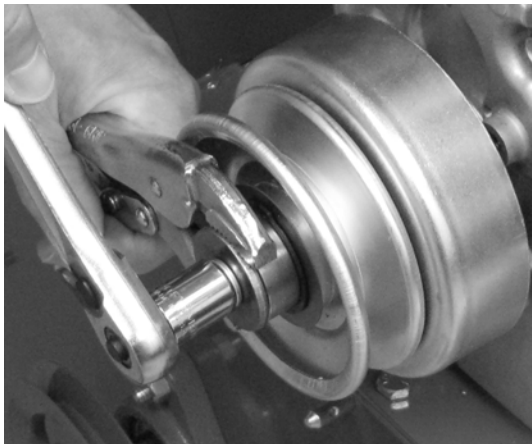

Figure 28
2. Remove the Clutch from the Engine Crankshaft by removing the Clutch Bolt and Washer and then slide the Clutch Assembly from the Crankshaft (**Figure 28**) (any Spacers remain on the Crankshaft).